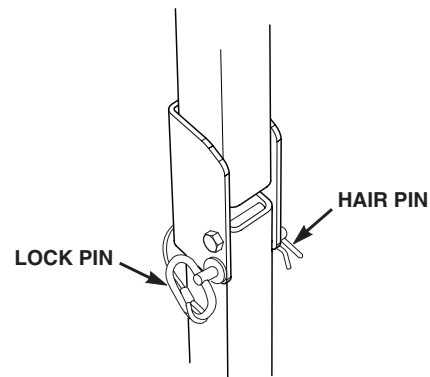

Figure 2-2. ROPS Hinge
1. To lower the roll bar, remove the hairpin cotter pins and remove the two (2) lock pins. See Figure 2-2.
Install the two (2) lock pins through the hole, secure with the two (2) hairpin cotter pins. See Figure 2-2.